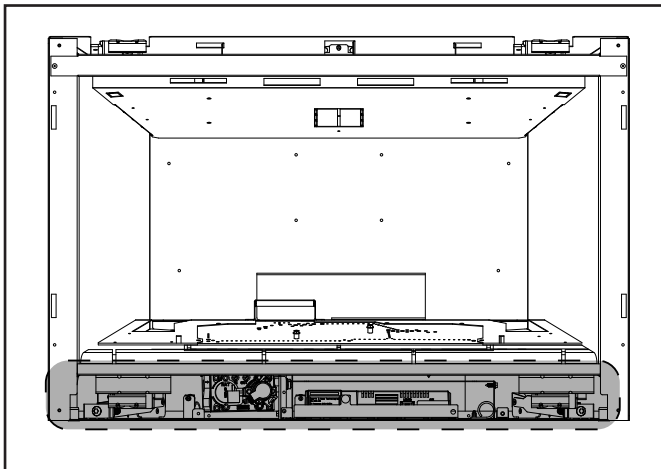

Figure 3.7 Control Cavity
The flame on this model has a variable burn rate which is controlled by the HI/LO knob on the gas valve. Therefore the flame height is adjustable. The HI/LO knob is shown in Figure 3.7. It is located in the control cavity of the appliance. The HI/LO knob may be adjusted as desired by turning counterclockwise to the LO position and by turning clockwise to the HIGH position.
1. Access the control cavity of the appliance. See Figure 3.7 for location. The decorative front, fixed glass assembly, and glass seal plate will need to be removed.